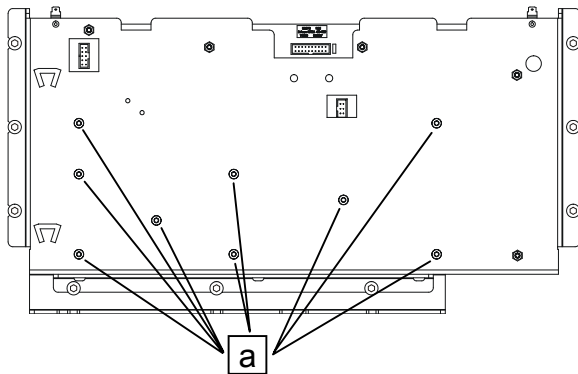

Fig. 12
- Unscrew the 9 fastening screws (Fig. 12, a) of the electronics (A1) at the support sheet.